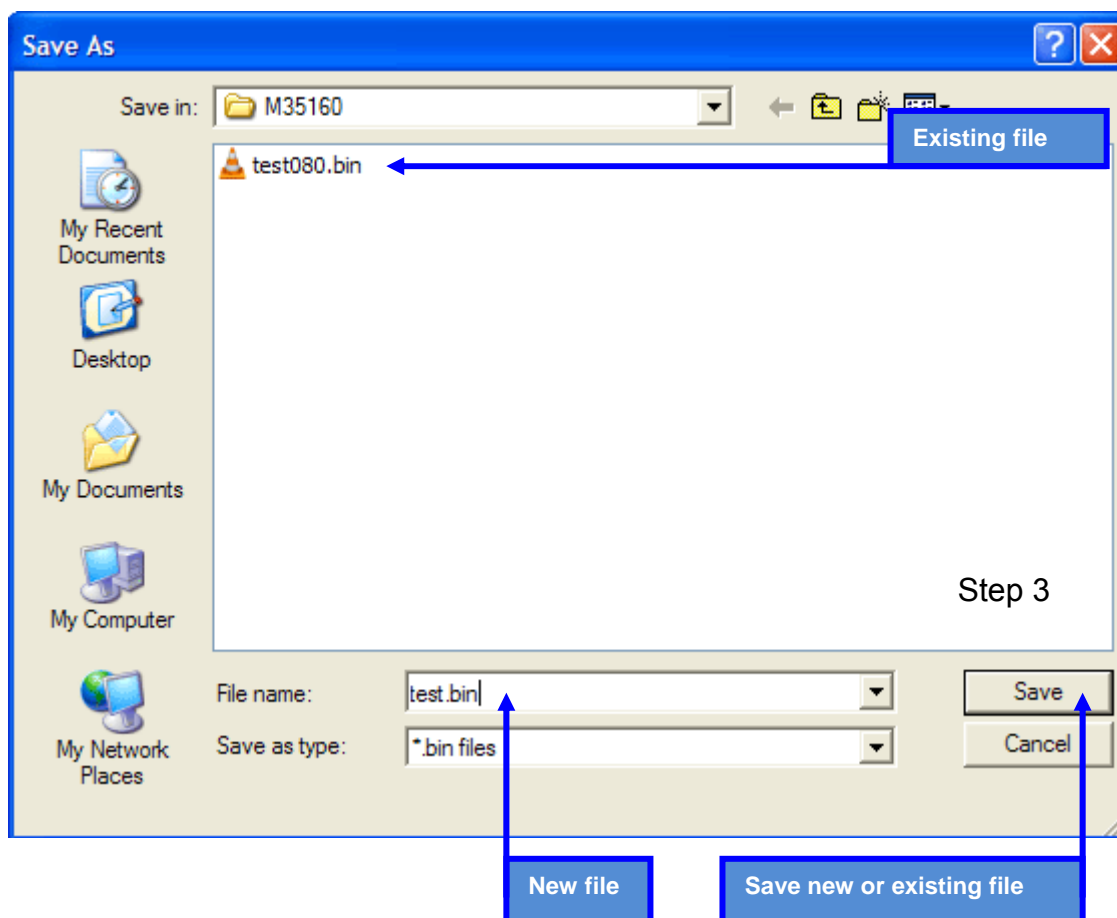

Figure 9
2. The “Save As” box popup. Type new file name or select existing file (Figure 9)
1. RDINC" button - read incremental area. This will read first sixteen bit incremental registers from the device (M35080 / M35160) into a file (Figure 9)